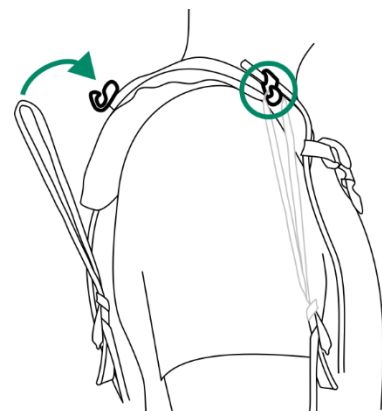

Figure 8
5. Attach the elastic bands to the hooks of the bracket, both on the front and the back (Fig. 8).